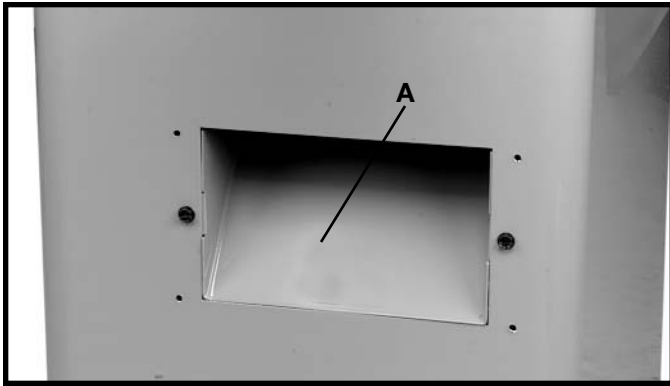
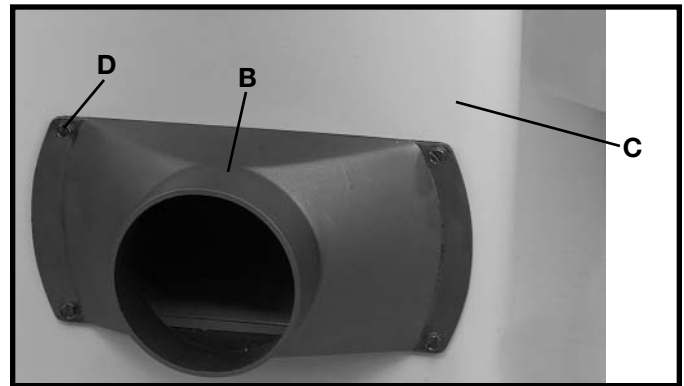

Fig. 25
Fig. 26
The jointer stand has a built-in dust chute (A) Fig. 25. If this machine is to be used with a dust collection system, the supplied dust collector connector (B) Fig. 26, can be fastened to jointer stand (C) with four #10-16x1/2" sheet metal screws (D) as shown.